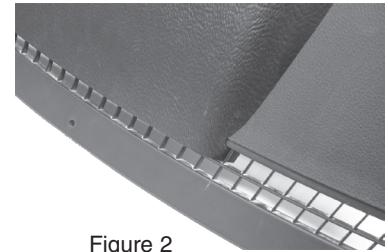

Figure 2
4. Place the pod on the dash so the back edge of the pod aligns with the first row of square vent holes. (**Figure 2**)
5. Flex the back of the pod so the two tabs (located on the back left and right edges) snap into the square vent openings. (**Figure 2**)